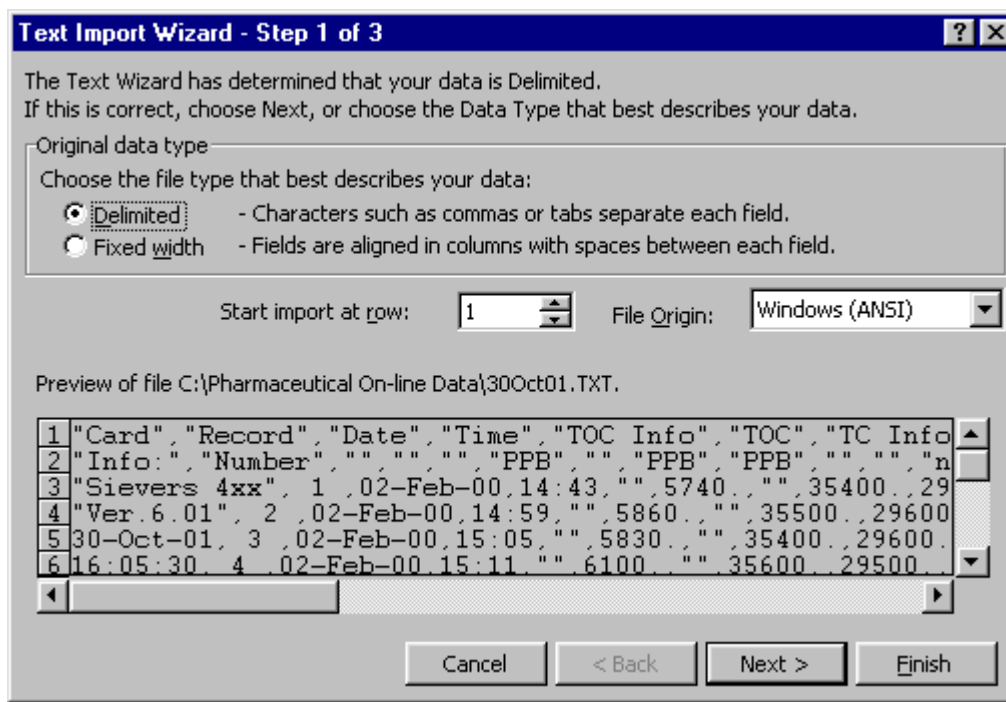

Figure 45: Step 1 of the MS Excel Text Import Wizard
6. Depending on the version of Excel you have, Excel may automatically start the "Text Import Wizard" to help you create a spreadsheet from the data in the file. If the "Text Import Wizard" dialog box appears (Figure 45), make sure **Delimited** is selected and press the **Next** button.